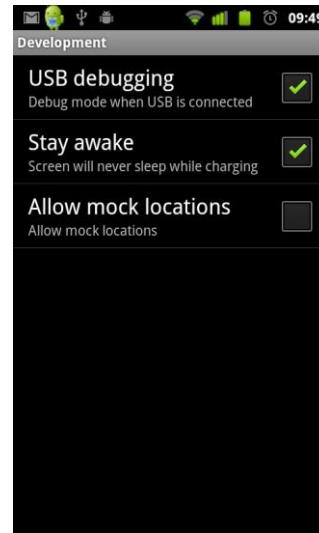
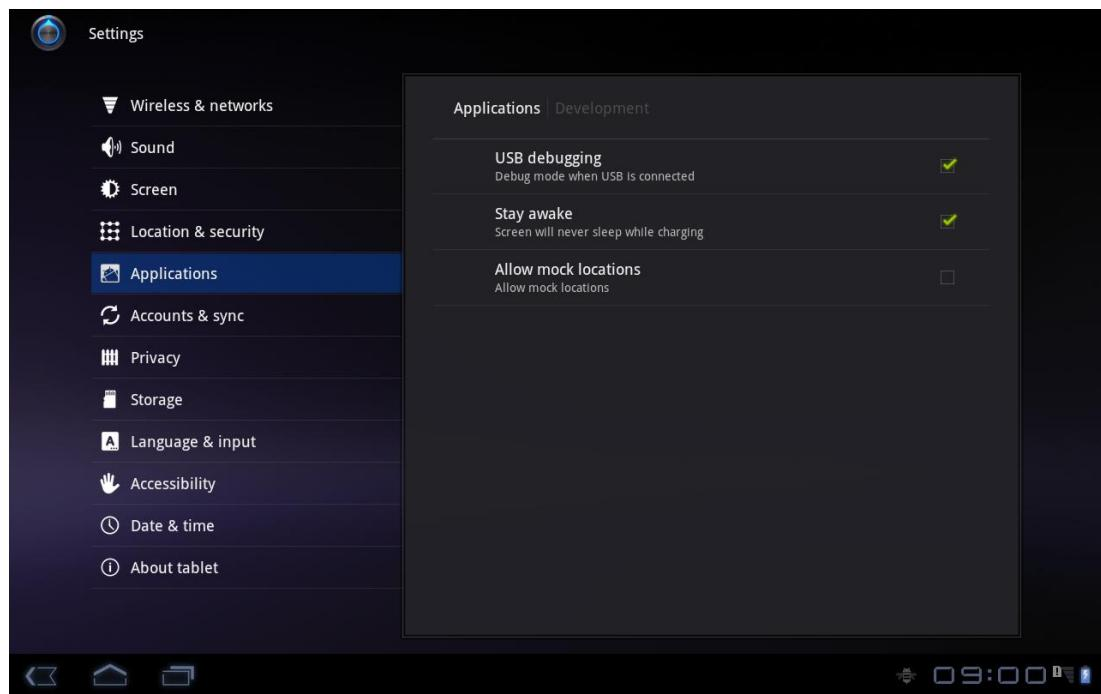

Figure 33 - USB Debugging - Nexus One
Figure 34 - USB Debugging - Motorola Xoom
- 2) One more setting that is useful when developing applications for an Android device is to enable USB debugging. Go to Settings, Applications, and then Development and enable USB debugging, see Figure 33 for Nexus One and Figure 34 for Motorola Xoom.